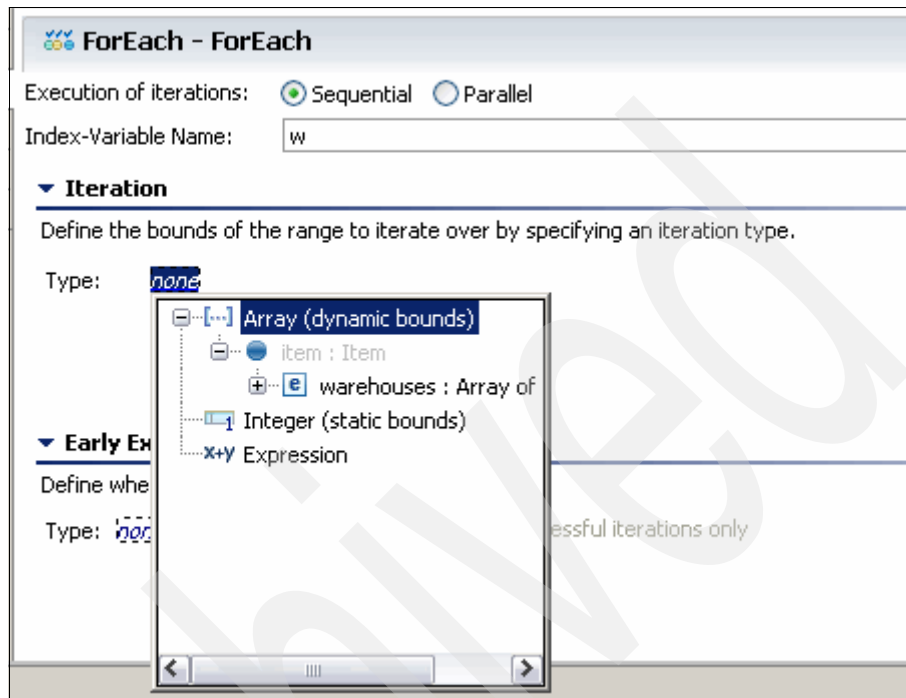

Figure 3-191 ForEach iteration context menu
- Set the iteration type by clicking **none** to open a context menu. Expand **Array** and select the **warehouses** array as shown in Figure 3-191.